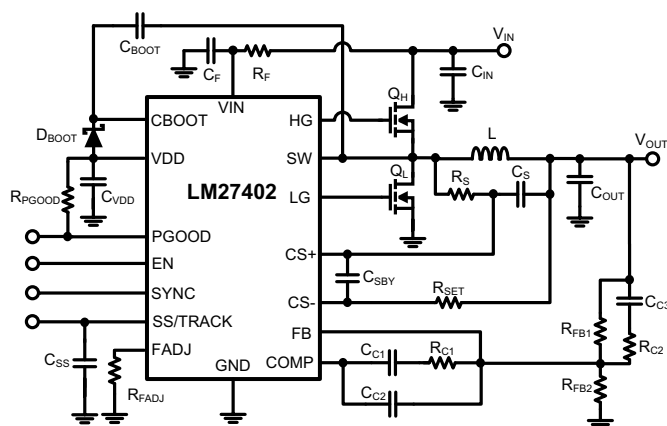

Figure 26. Typical Application Circuit
As with any DC/Dc converter, numerous tradeoffs are required to optimize the design for efficiency, size, or performance. Such tradeoffs are highlighted throughout the following discussion. To facilitate component selection, the circuit shown in Figure 26 may be used as a reference. Unless otherwise indicated, all formulae assume units of Amps (A) for current, Farads (F) for capacitance, Henries (H) for inductance and Volts (V) for voltage.
Figure 26 shows R_F and C_F acting as an RC filter to the VIN pin of the LM27402. The filter is used to attenuate voltage ripple that may exist on the input rail particularly during high output currents. The recommended values of R_F and C_F are 2.2 Ω and 1 μ F, respectively. There is a practical limit to the size of R_F as it can cause a large voltage drop if large operating bias currents are present. The VIN pin of the LM27402 must not exceed 150 mV difference from the input voltage rail (V_{IN}).